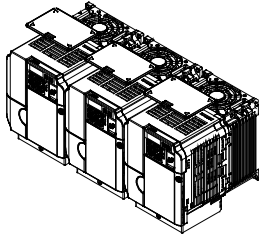

Figure 2.4 IP20/NEMA 1 Side-by-Side Mounting in Enclosure
**NOTICE:** When drives with IP20/NEMA Type 1 enclosures are mounted side by side, the top covers of all drives must be removed as shown in Figure 2.4 .